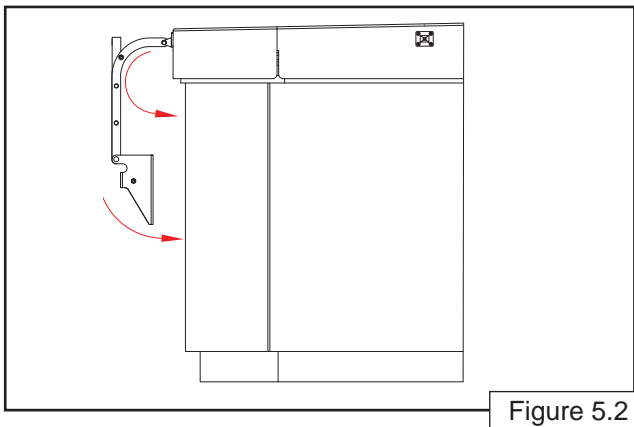

Figure 5.2
3. Rotate Pivot Assemblies until the bottom (Mounting Bracket) touches the side of the spa (Figure 5.2).